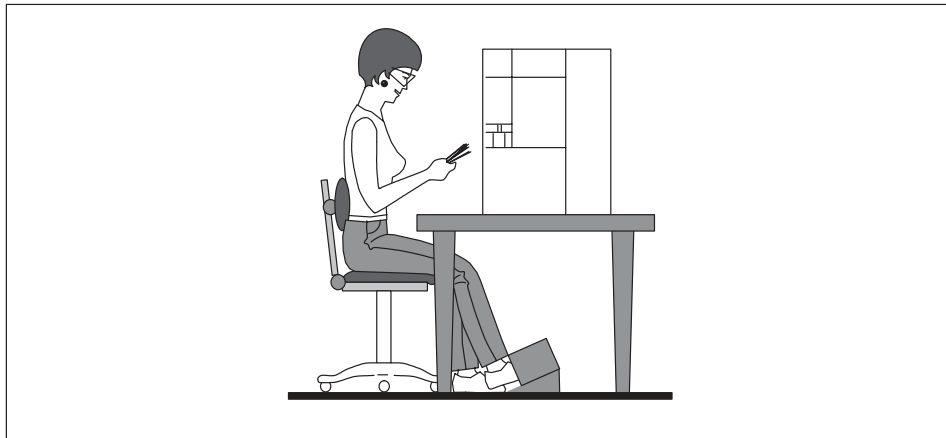
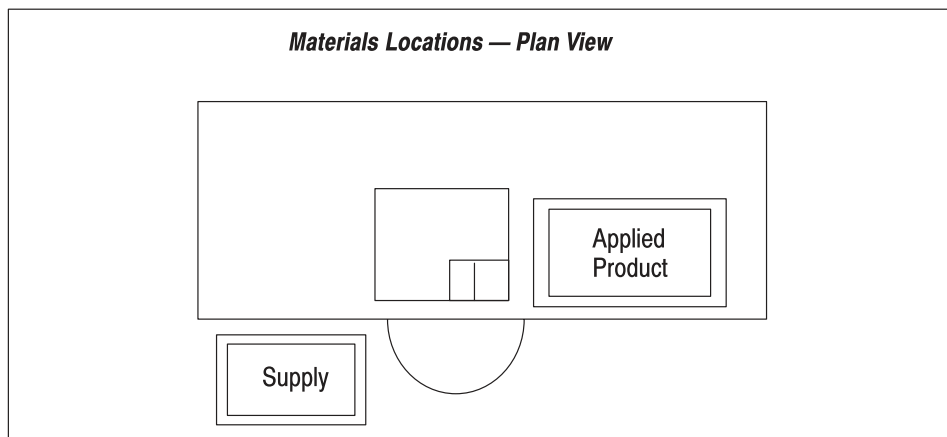

Figure 7
Figure 8
(4) the foot switch, on machines so equipped, is placed on a rubber mat to maintain its movability, while preventing it from sliding unintentionally. Figure 7 illustrates proper machine location and operator position. Figure 8 illustrates: